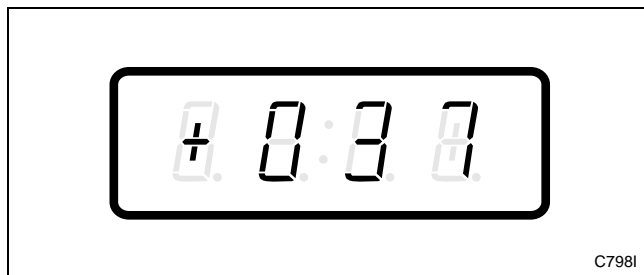

Figure 112
3. Press the DELICATES (+) or the COLD (-) keypad to scroll through the programmable options until “+037” appears in the VFD. Refer to *Figure 112*.